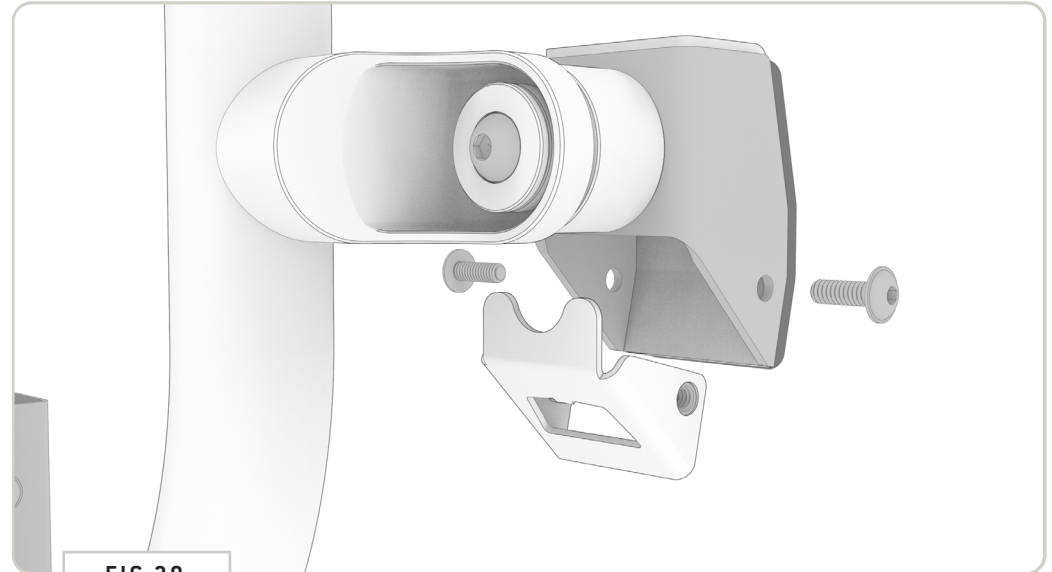

FIG 39
**9.1 Bottle Opener:** Attach the **Bottle Opener** to the **Third Mount Bracket** using (2) 1/4-20 x 0.75 Flanged Button Head Screws (FIG 39+40).